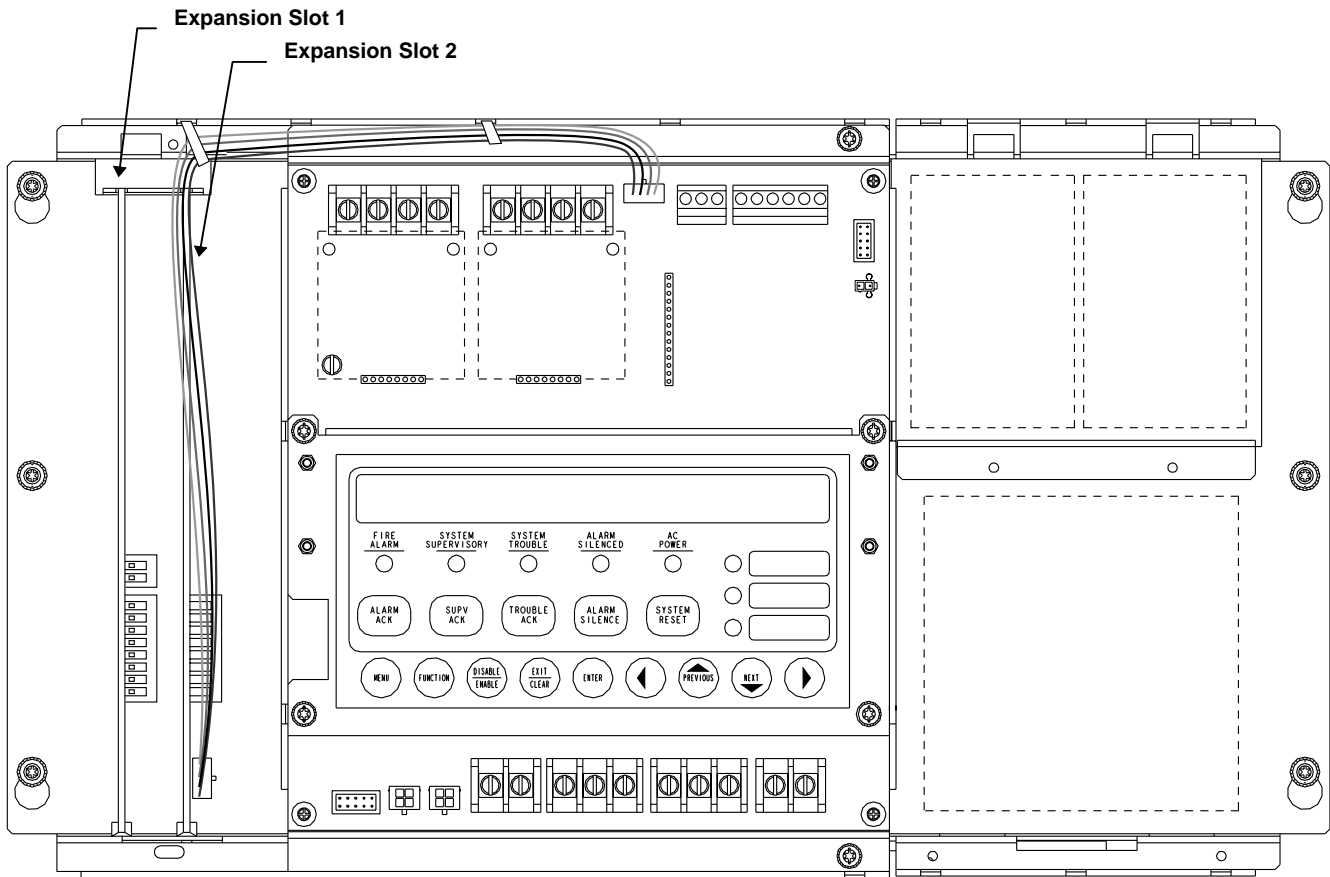

Figure 6. Option Card Expansion Slots
Install a single option card in Expansion Slot 2 shown in Figure 6. When an option card is already present, install the additional option card in Expansion Slot 1. Each option card comes with all necessary harnesses and mounting hardware. Use Steps 1 through 5 to install either card into the 4010 FACP.
3. Slide the option card into the appropriate expansion slot (see Figure 6).